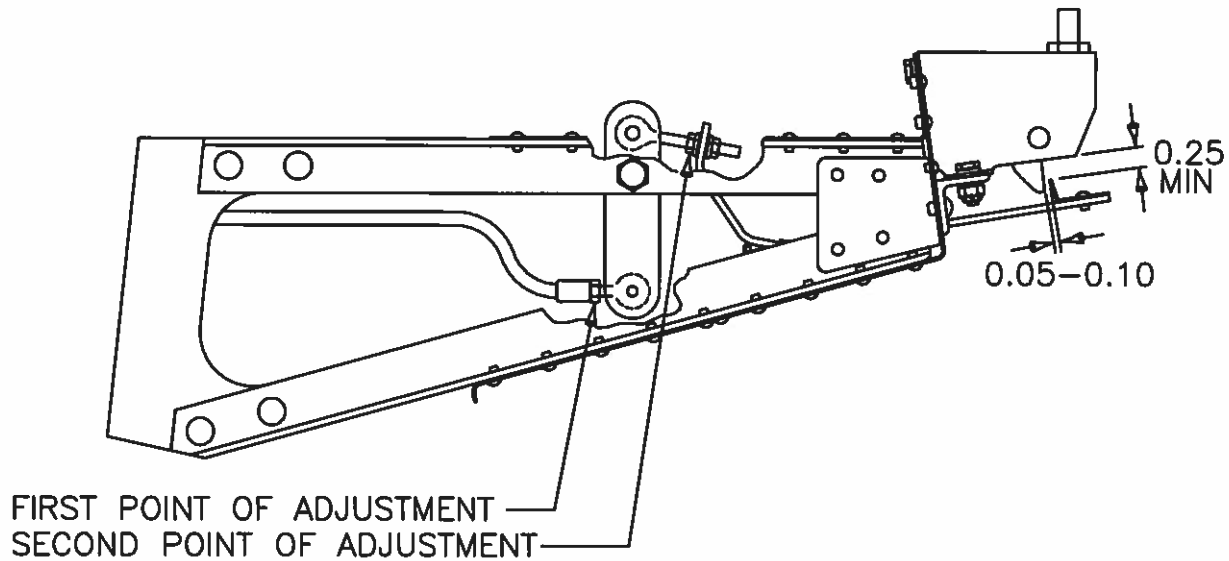

Figure 2: Measurements and Adjustments
- (iv): Ensure release rod stop is 0.050 to 0.100 inch aft of the rudder lock cam follower (see Figure 2). This clearance determines the elevator angle at which the rudder lock releases. A clearance of 0.050 to 0.080 will cause the rudder lock to release at approximately 1 degree up elevator. Any required adjustment should be made as follows: